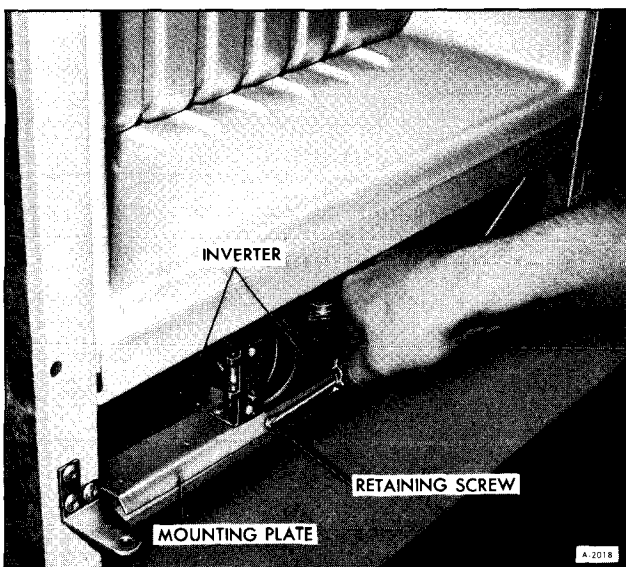

Figure 15—Removing Inverter Assembly
2. Remove screw at front of inverter assembly mounting plate (figure 15). Lift assembly out of refrigerator.
2. Place inverter assembly in position and secure with screw at mounting plate, as shown in Figure 15.